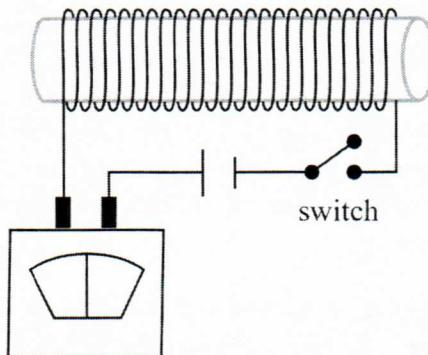

Figure 7.2 A battery, coil, switch and galvanometer in series.
3. Connect the battery, coil, switch, and galvanometer in series as shown in figure 7.2. Briefly close the switch. In what direction does the current run? In what direction does the needle deflect?